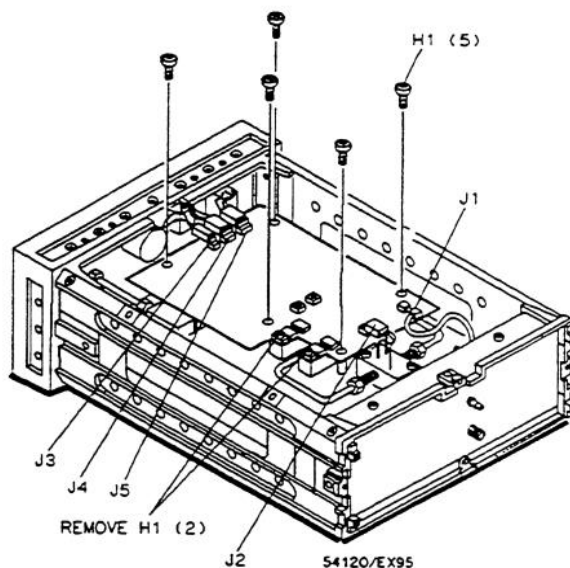

Figure 6-4. Bias Control Assemble Removal
4. Remove five screws holding bias control assembly to main deck. Refer to figure 6-4.